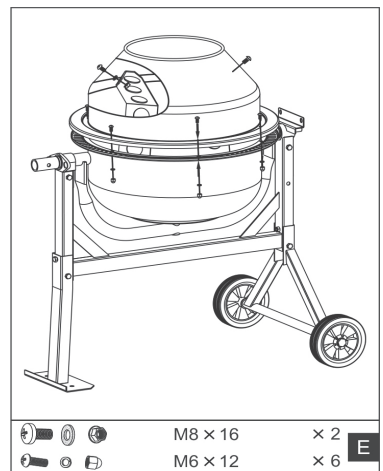

Fig.9
- Place the sealing ring on the lower part of the drum. Next, place the upper drum unit on the lower mating unit. The arrows on the drum units indicate the correct positioning of the halves and must point towards each other. The assembly openings of the mixing blades inside the drum must be in a vertical line. If not, the blades cannot be mounted. Screw the two units together using six M6 x 12 bolts, washers and nuts. Then screw the mixing blades to the upper unit of the drum and use type M8x16 and one leather washer each. Tighten all screws (E), Fig.9.